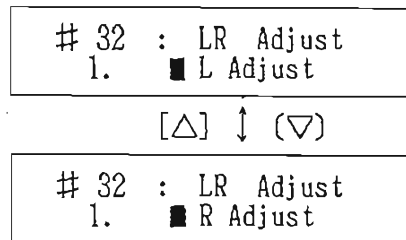
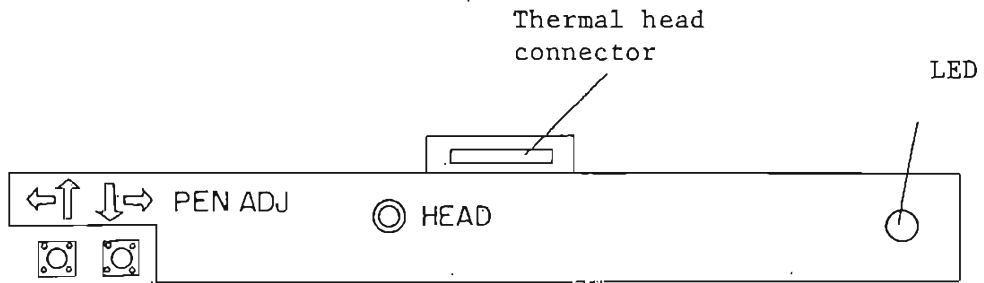

Fig. 13-1 LCD display in "Method 32".
Fig. 13-2 Switch position.
The menu mode in "Method 32" in Fig. 13-1 is caused.
- (1) Press the [Enter] key on the display in Fig. 13-1 when "1. ■ L Adjust" is displayed. The "Measure" lamp lights up, the thermal plotter head moves to the extreme left, recording starts, and the "PEN ADJ" button becomes valid. In this state, adjust the "PEN ADJ" button so that the plotter head is positioned on the ruled line on the extreme left in Fig. 13-2.